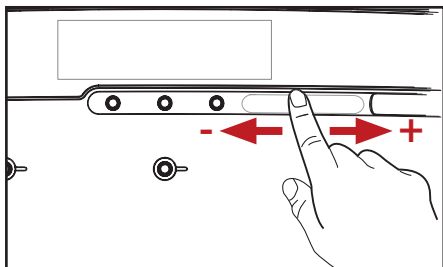

Fig. 4.6 - Strength preselection
2. Slide your finger over the **STRENGTH**-slider to preselect the strength of your drink (fig. 4.6).